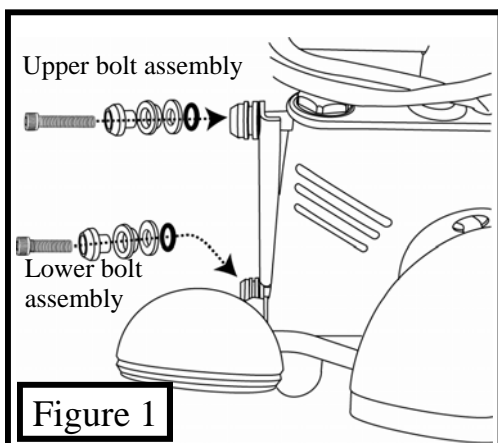

Figure 1
2. Remove the two original upper Light Bar bolts located on the sides of the forks, also temporarily remove the steel spacers behind the Light Bar frame. Replace the bolts with the new longer upper mount bushing assemblies (use the 1-3/4" long bolt assemblies) and re-install the original steel spacers behind the Light Bar frame. (See figure 1). **Note:** Additional 1 1/2" bolts are included for some applications.
3. Remove the two lower Light Bar mounting bolts located on both sides of the forks. Install the new lower bolt bushing assembly. (See figure 1) Repeat step 2 and 3 on the opposite side.